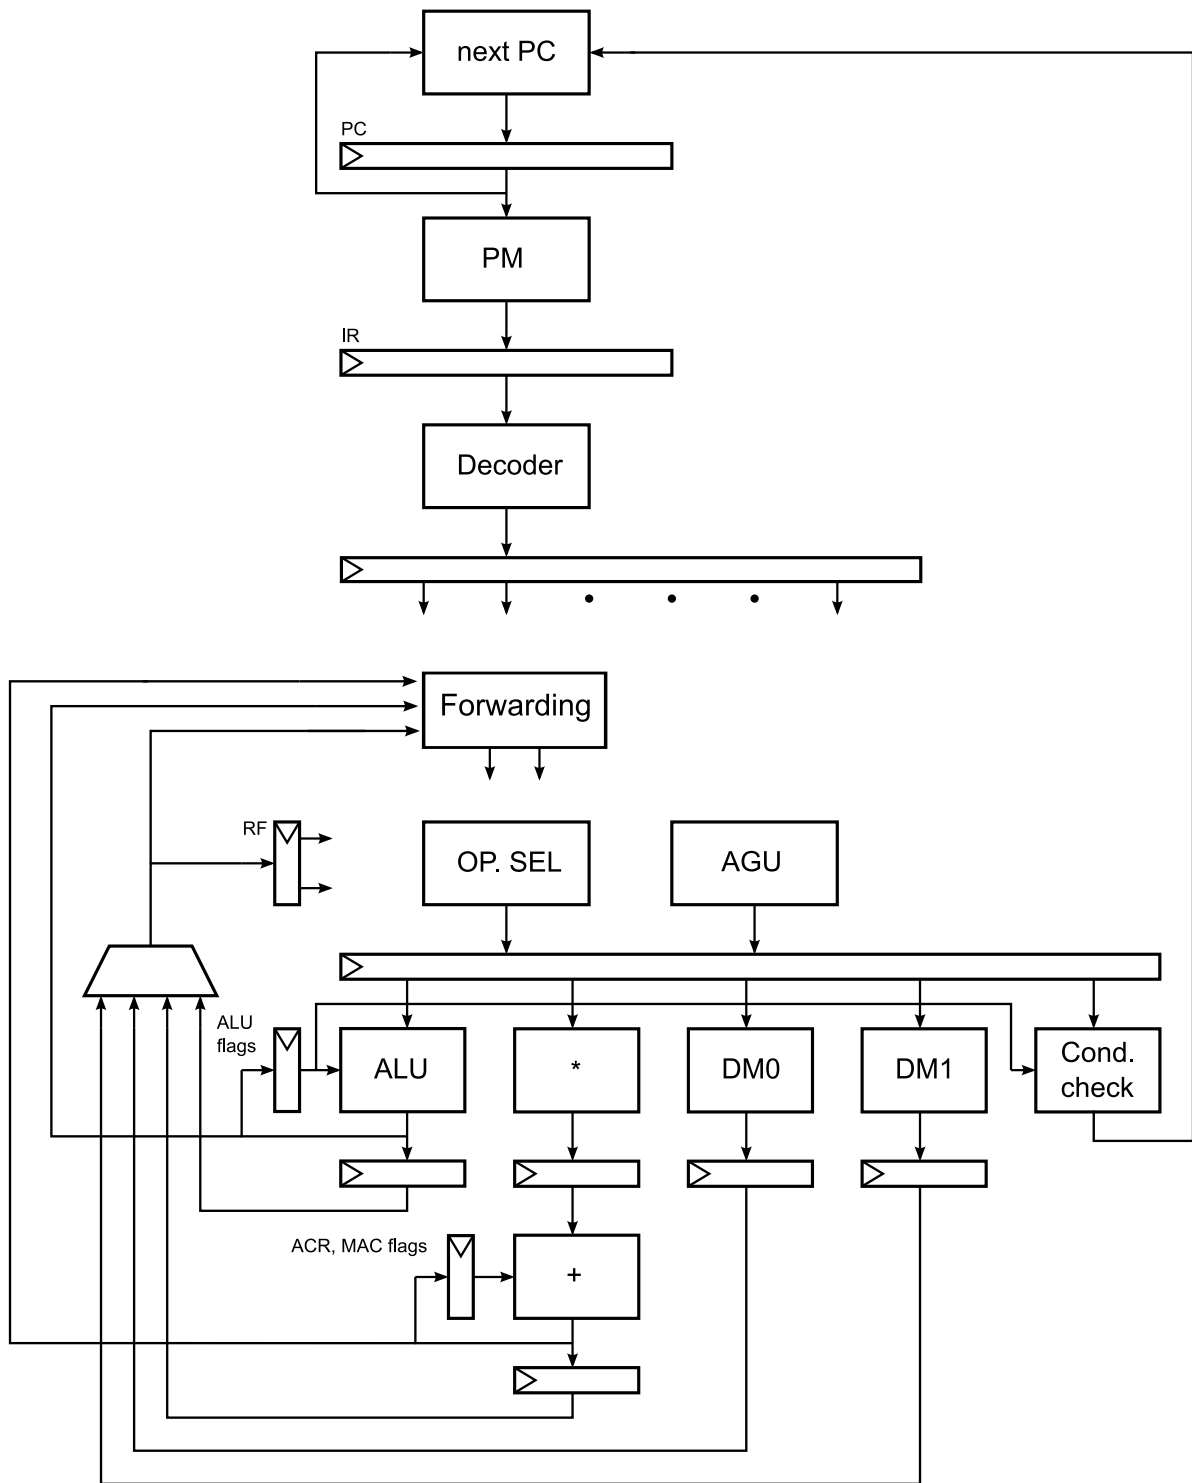

Figure 1: The Senior pipeline
- c) The Senior pipeline is pictured on the next page in Figure 1). What modules in the pipeline (besides the instruction decoder) do you need to modify to implement `Read1bit` as one instruction? (It should be possible to execute an arbitrary number of consecutive `read1bit` instructions without having to stall the pipeline.) (2p)